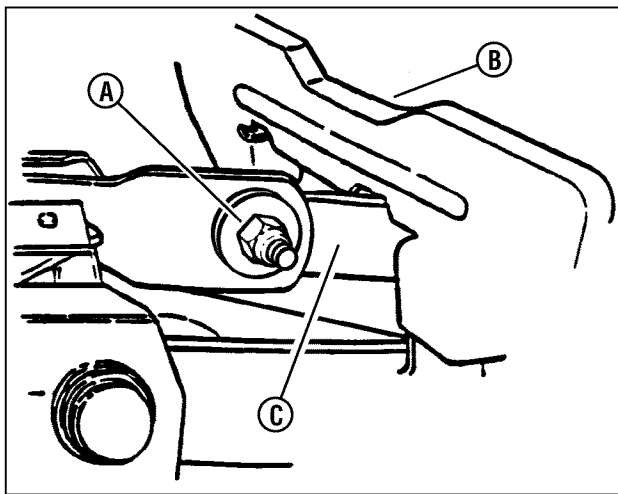

Figure 34: Adjusting deck levelness (side-to-side)
6. Loosen the hardware (**A, Figure 34**) that retains the left side of the blade pedal (**B**).